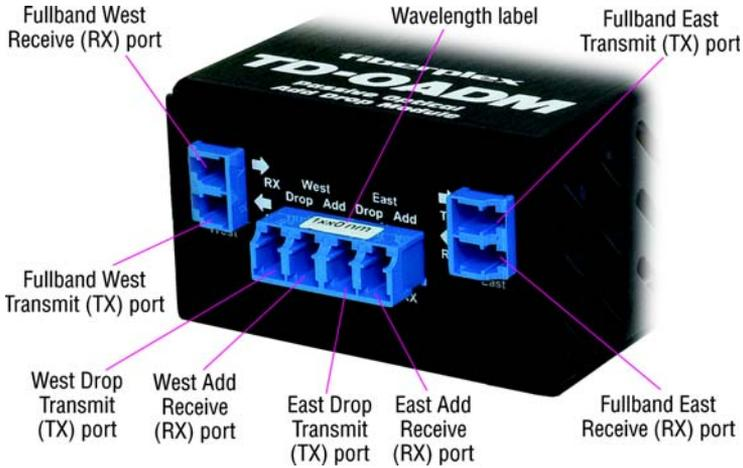
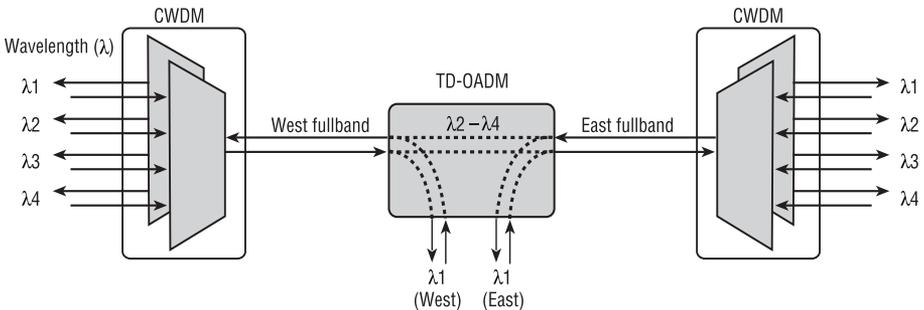

Figure 3. TD-OADM Ports and Wavelength Label
Figure 4. 1-Channel Add/Drop Multiplex/Demultiplex
The Drop ports (see **figure 3**) transmit (TX) signals on a specific CWDM wavelength. Drop ports are demultiplexed from the fullband (West/East) ports. As shown in
figure 4, a 1-channel TD-OADM supports a single channel in West and East directions. Each Drop port has a West and East port. Data transmitted by the West Drop port is split from the West fullband port, and data transmitted by East Drop port is split from the East fullband port. Data on the designated wavelength is blocked from passing through the fullband ports.
The Add ports (see **figure 3**) receive (RX) signals on a specific CWDM wavelength. Add ports are multiplexed on the fullband (West/East) ports. As shown in **figure 4**, a 1-channel TD-OADM supports a single channel in West and East directions. Each Add port has a West and East port. Data received by the West Add port is aggregated on the West fullband port, and data received by East Add port is aggregated on the East fullband port. The Add data at the designated wavelength overwrites the data on that wavelength in the fullband ports.
Fullband ports (see **figure 3** on page 4) transmit (TX) and receive (RX) the aggregated wavelengths connected to the Drop/Add ports. As shown in **figure 4** on page 4, there are West and East fullband ports on the TD-OADM. The West fullband port and the East fullband port are internally connected so as to pass all wavelengths that are not in the TD-OADM's specific wavelength. Only the TD-OADM's specific wavelength will be dropped from the appropriate Drop port or added to the appropriate Add port. The West fullband Drop and Add ports drop and add wavelength traffic from the West Drop and Add ports, and the East fullband Drop and Add ports drop and add wavelength traffic from the East Drop and Add ports.
Note Verify that the wavelength label on the TD-OADM (see **figure 3** on page 4) matches the wavelength of the attached device.